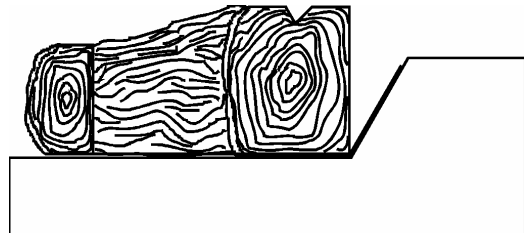

Figure: 5 – Side view of burner and log placement.
4. Place the logset on top of the burner so that the bottom corner of the logset rests against the corner bend of the burner, as shown in Figure 5.